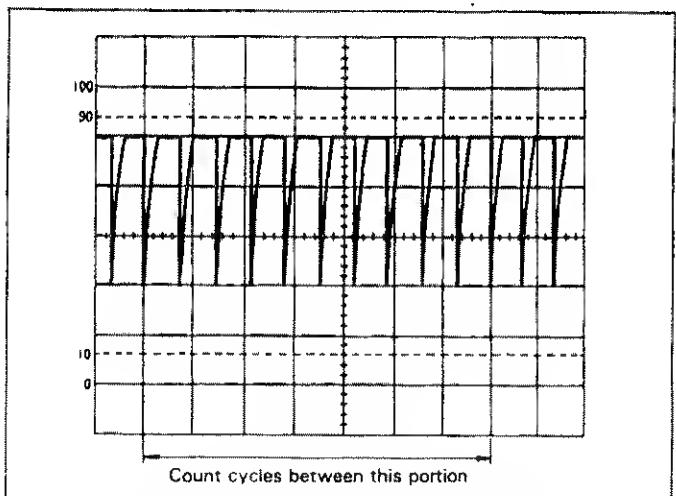

Fig. 10. Alternate Method of Frequency Measurement.
(Refer to Fig. 10)
2. Count the number of cycles of waveform between a chosen set of vertical graduation lines (see Fig. 10).
For the example shown in Fig. 10, there are 10 cycles within 7 divisions. If the sweep **TIME/DIV** is 5 μ s and **X10 Mag** is not used, the frequency is calculated as follows: